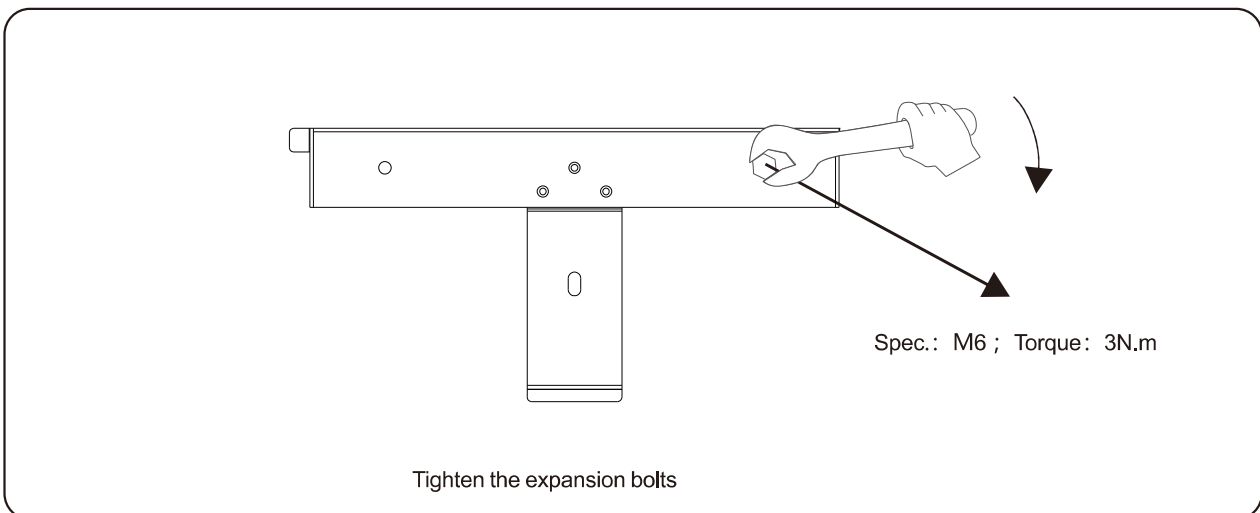

Figure 4.12 Completely secure the rear panel
**Step 5** Tighten the expansion bolts with a torque of 3 N.m using a torque wrench to completely secure the rear panel on the wall, as shown in Figure 4.12.